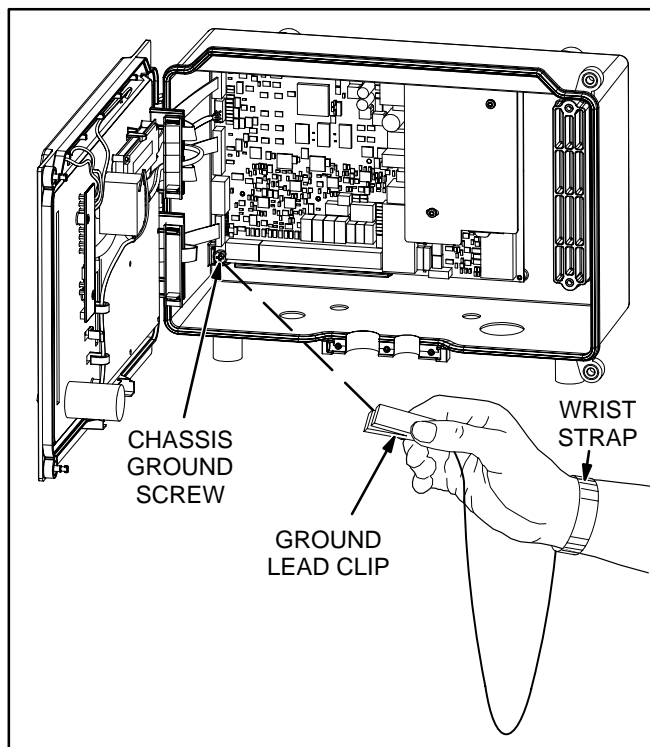

FIGURE 1. WRIST STRAP
Attach the clip to the chassis ground connection in the lower left-hand corner of the control box and place the strap around your wrist before handling a circuit board (see Figure 1).
6. Use a wrist strap, or touch a grounded surface to discharge any static charge before handling circuit boards (see Figure 1).